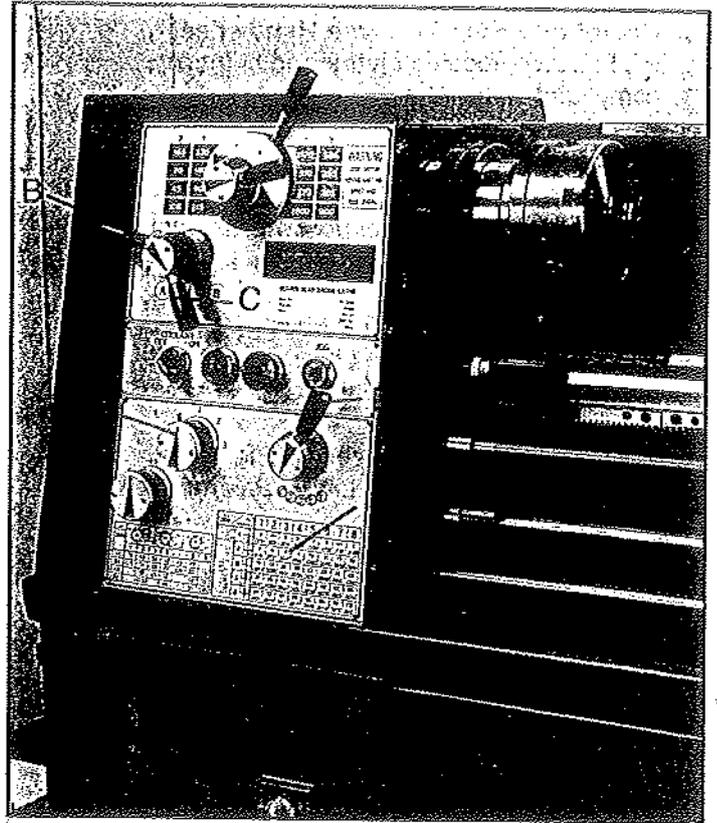

Fig. 16
1. Reference the feed and thread tables (A, Fig. 16) found on the gear box faceplate.
2. Move levers (B, C, D, & E, Fig. 16) to the appropriate positions according to the chart.
66T, 70T tooth gears found in the tool box are used as indicated on feed and thread tables (A, Fig. 16).
Note: other gear combinations are possible. See the lead and feed chart on the front of the gear box (A, Fig. 16).